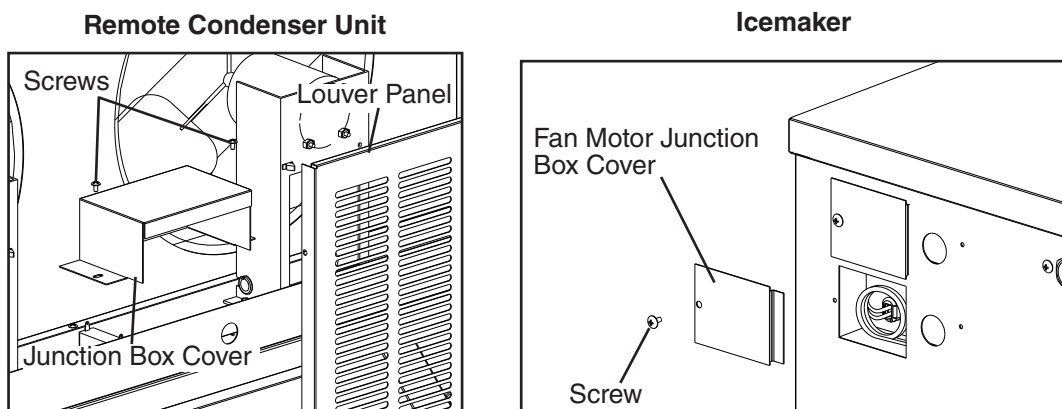

Fig. 12
- 1) Remove the remote condenser unit louver panel. See Fig. 12.